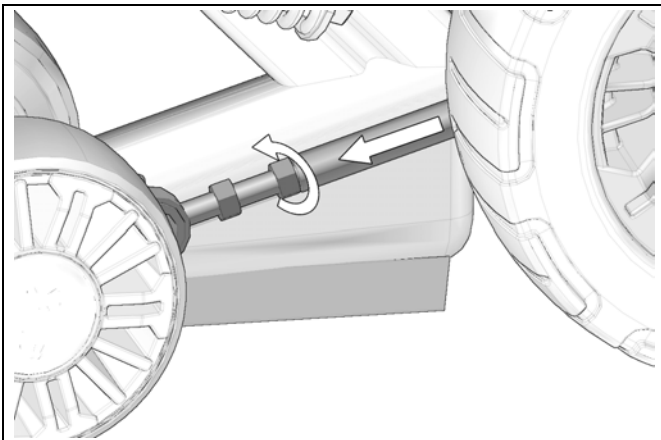

Figure 32
- Set track tensioner to minimum position. See Figure 32.